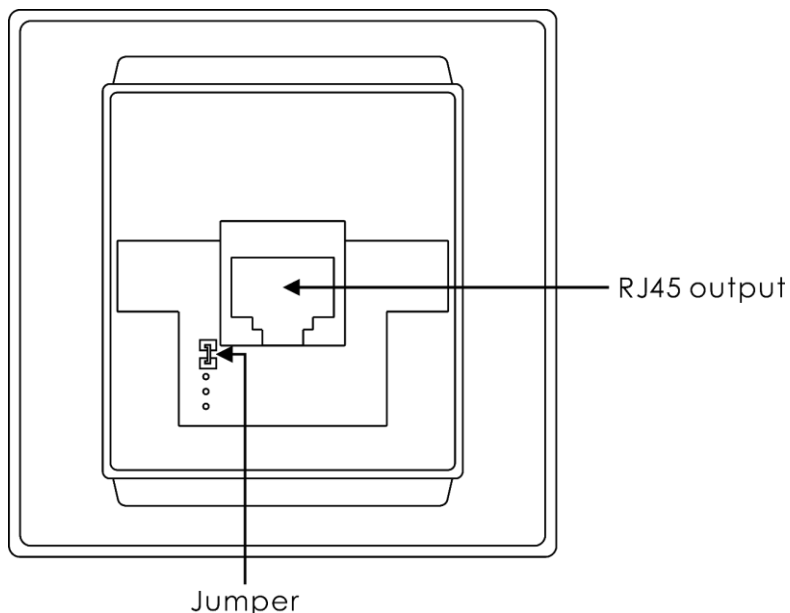

Fig. 10
- 02) Install the wall panel in two ways, with or without the jumper. See Fig. 10.